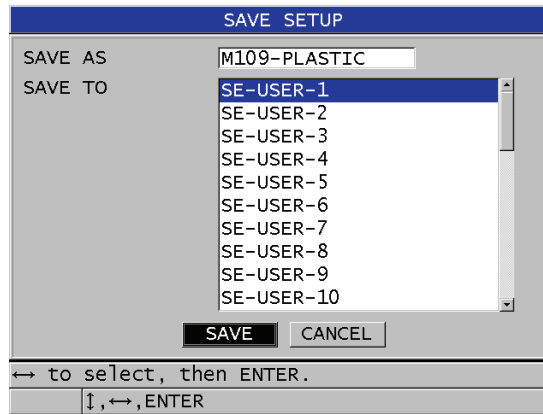

Figure 13-17 Saving custom setups
4. In the **SAVE SETUP** screen (see Figure 13-17 on page 238).